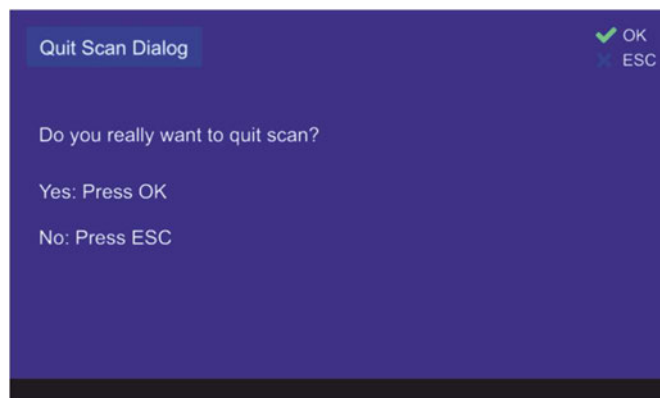

Figure 36. Confirming of leaving the scan mode
- You can also stop the scan mode by pressing the “HOME” button on the “Bearing” page with activated scan. After you have confirmed the special dialog (s. Figure 36), this mode will be terminated.